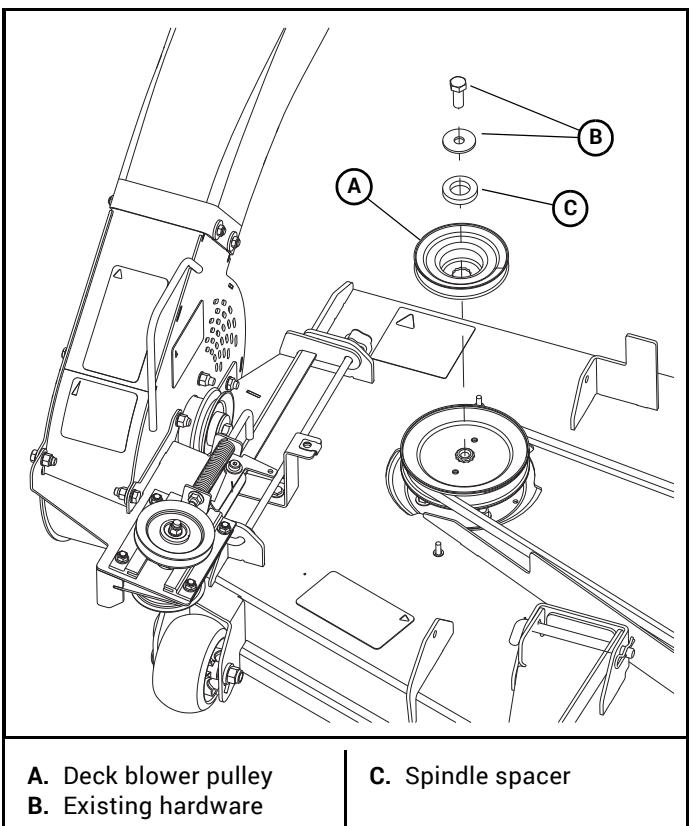

Figure 3-24
**NOTE:** The provided spindle spacer is used on 48" and 54" decks only, use the existing spindle spacer on the 60" deck. Torque the bolt to 65–75 ft.-lbs. Figure 3-24